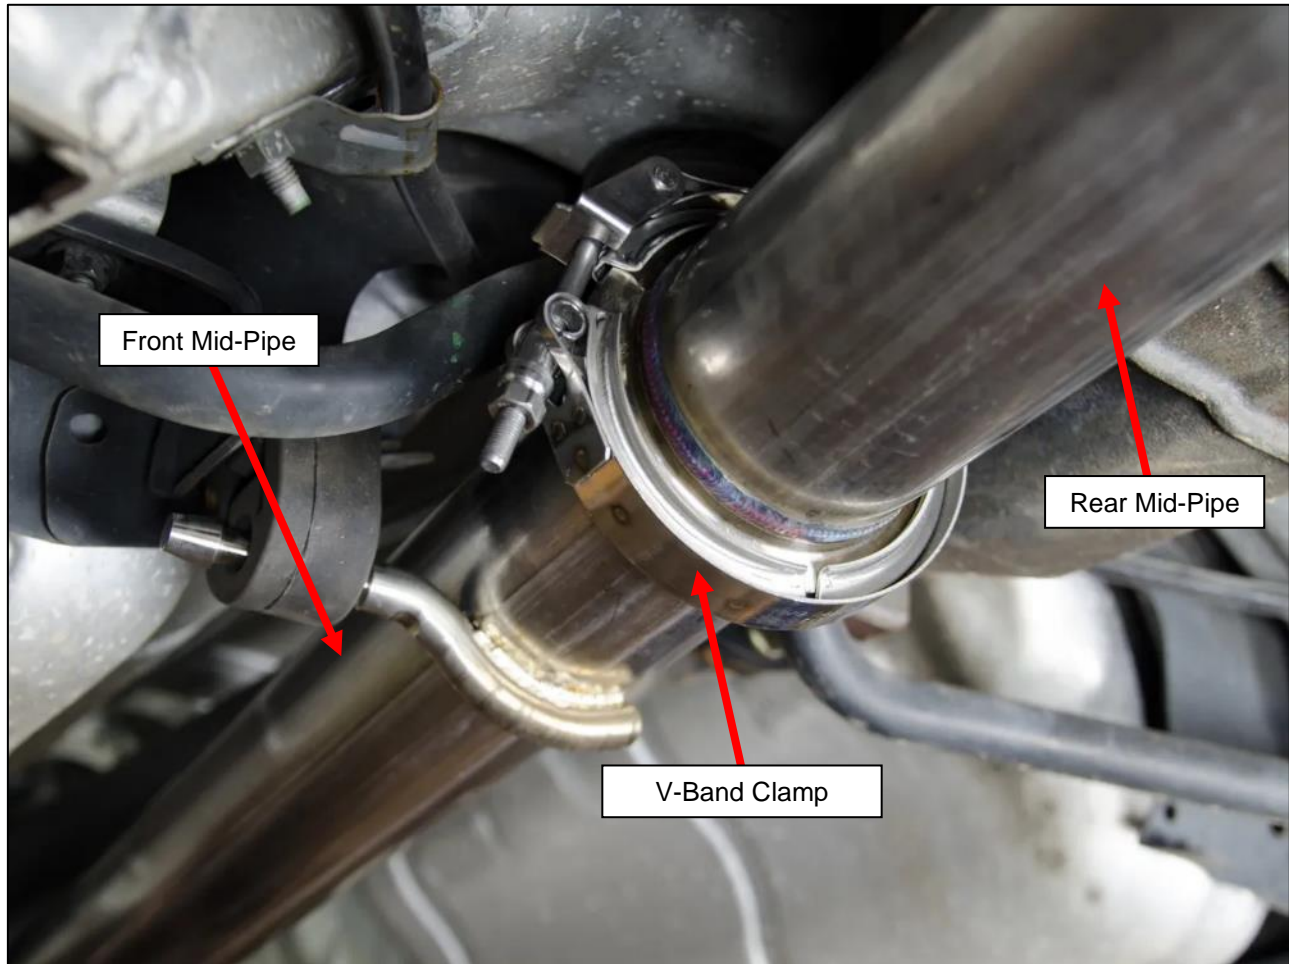

Figure 7
8. Secure the other end of the Front Mid-Pipe to the Rear Mid-Pipe and secure with the V-Band Clamp. *Figure 7.*